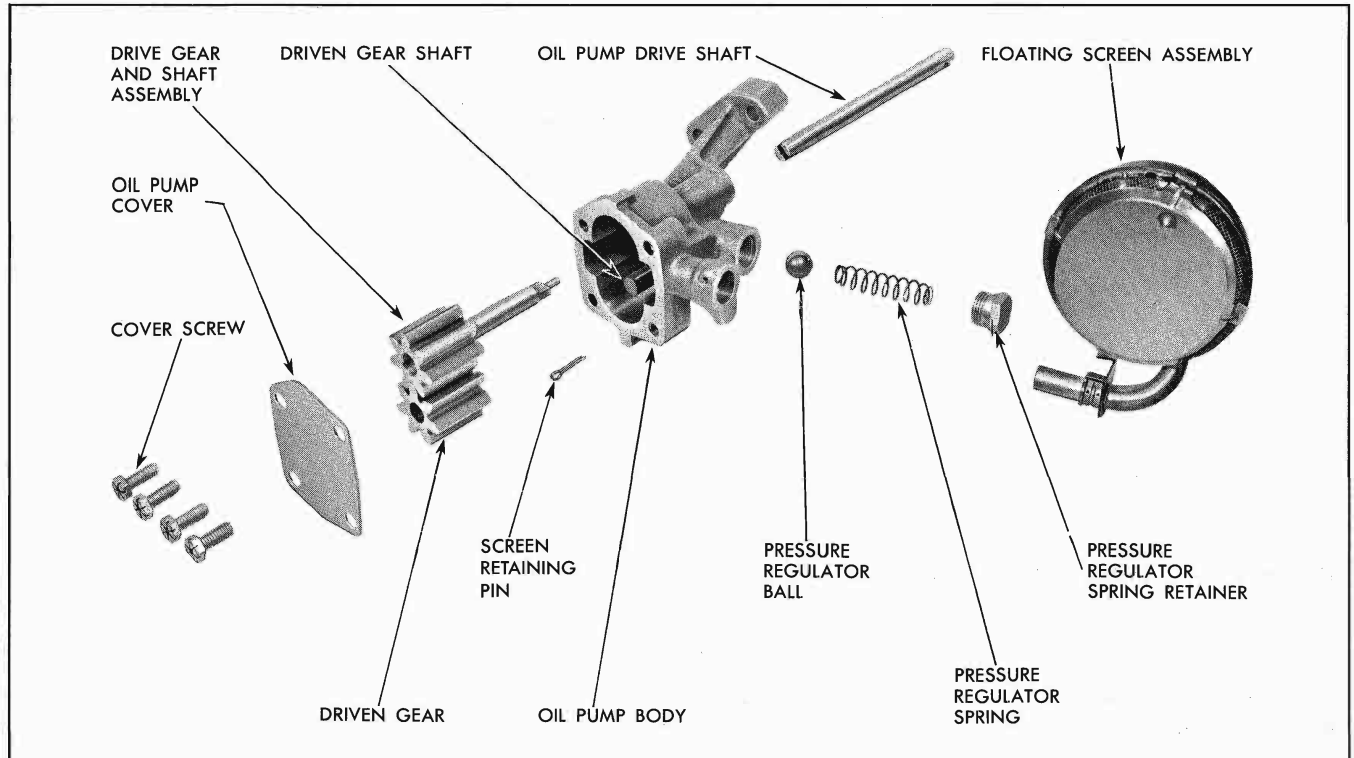

Fig. 6-60 Oil Pump—Exploded View
2. Inspect pressure regulator spring (Fig. 6-60) for distortion, cracks, and wear on sides.
5. Inspect pump gears and end of drive gear shaft for wear (Fig. 6-60).